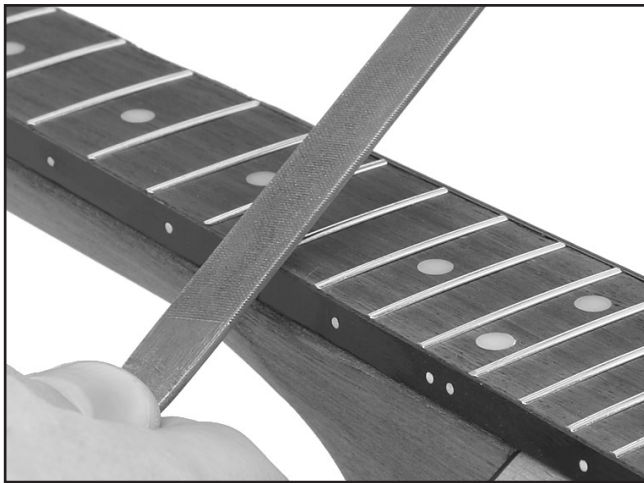

Figure 18. Filing fret ends.
2. Use a fine flat file to angle the metal fret ends, as shown in **Figure 18**.